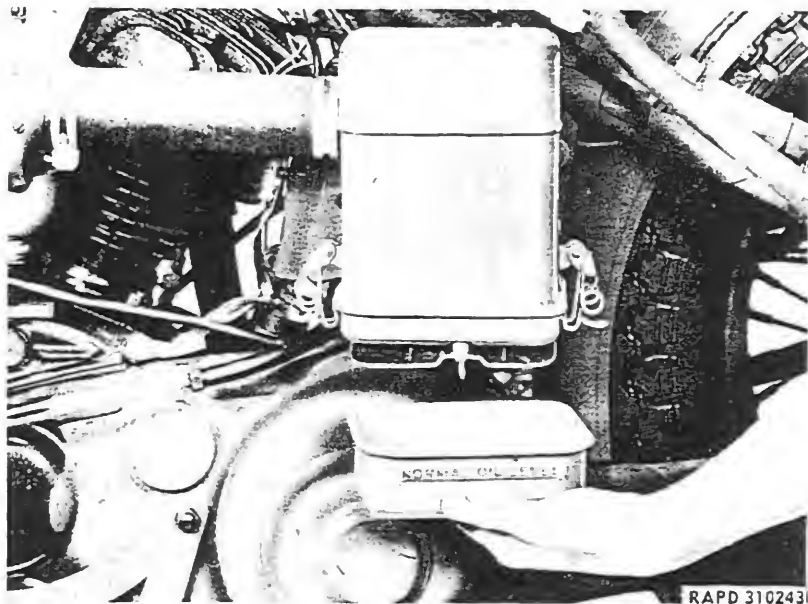

Figure 46—Air Cleaner Oil Cup Removed
76. AIR CLEANER (figs. 46 and 47).